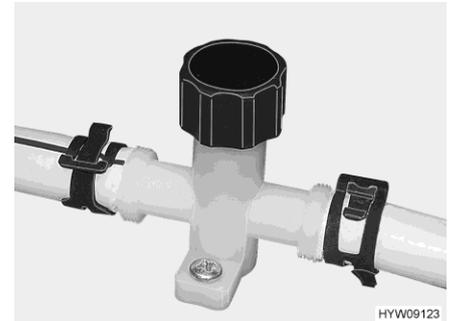

Fig. 150 Drain cock (water pipe)
- Close drain cocks (Fig. 151 and Fig. 150). To do so, close the caps by turning them in a clockwise direction and set the rocking lever in a horizontal position. The position of the safety/drainage valve and the drain cocks is specified in the section 10.6 at the end of this chapter.